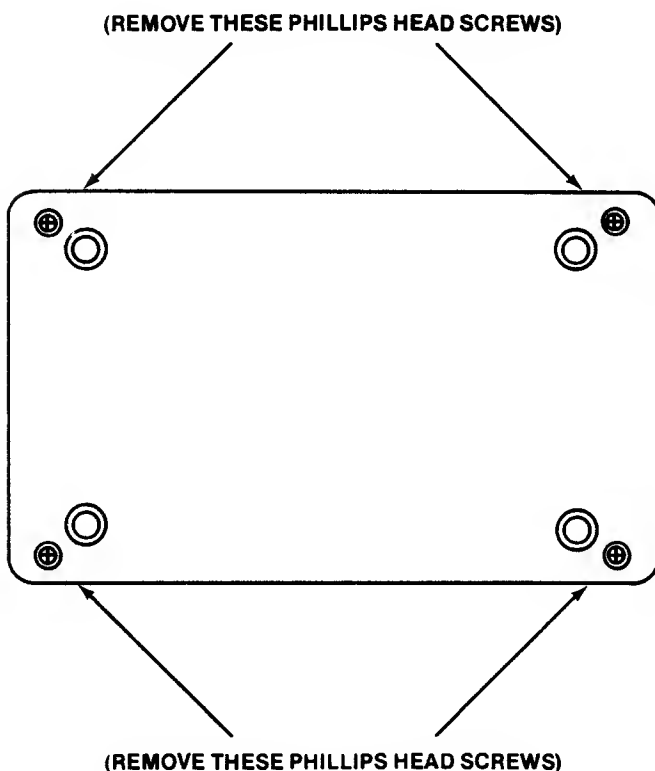

Fig. A-5. Remove the four screws holding the drive together.
4. Remove four screws holding drive box as shown in Fig. A-5.